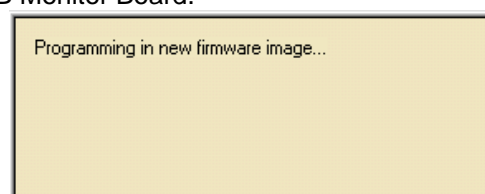

Figure 4-23 Firmware Download screen
- 4) The screen shown in Figure 4-23 is displayed while the system is downloading the firmware to USB Monitor Board.